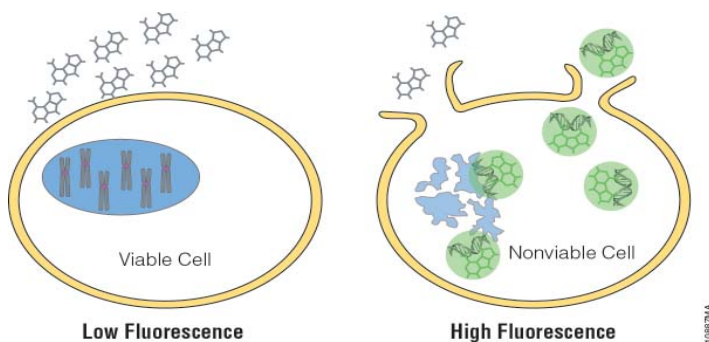

Figure 1. CellTox™ Green Dye binds DNA of cells with impaired membrane integrity.
The CellTox™ Green Cytotoxicity Assay^(a) measures changes in membrane integrity that occur as a result of cell death. The assay is intended for assessing cytotoxicity in cell culture after experimental manipulation. The assay system uses a proprietary asymmetric cyanine dye (1) that is excluded from viable cells but preferentially stains the dead cells' DNA (Figure 1). When the dye binds DNA in compromised cells, the dye's fluorescent properties are substantially enhanced. Viable cells produce no appreciable increases in fluorescence. Therefore, the fluorescent signal produced by the dye binding to the dead-cell DNA is proportional to cytotoxicity (Figure 2).